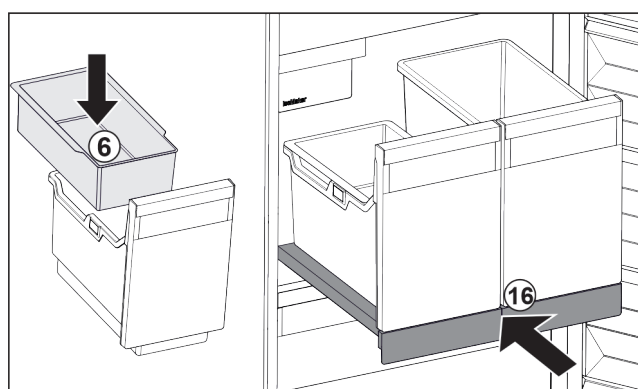

Fig. 100
- Insert hang-on tray Fig. 100 (6) for ice cubes.
- Slide in the pull-out board with container (IceTower). Fig. 100 (16)